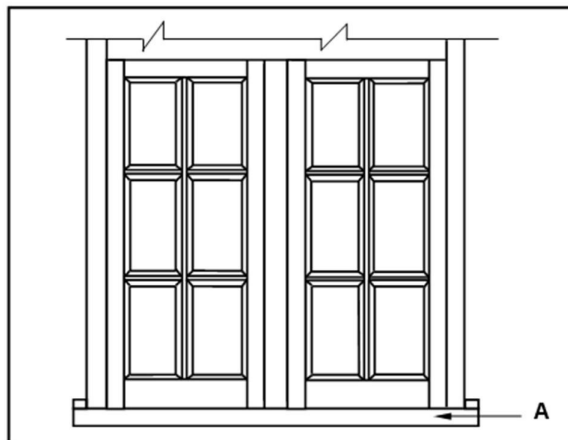

FIGURE 4.3
- 4.3 FIGURE 4.3 below shows an external elevation of an incomplete casement. The casement can be extended by placing a new part on top of the existing one. Study the figure and answer the questions that follow.